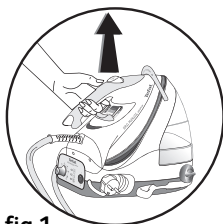

fig.1
- Your steam generator is equipped with a retaining clip which locks the iron on its casing for easier transport and storage – **fig.1**:
- grasp the handle of the iron to carry your steam generator – **fig.1**.